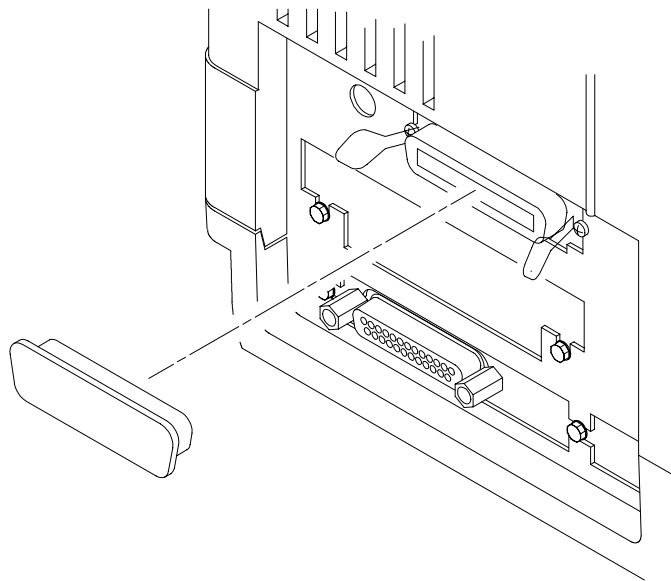
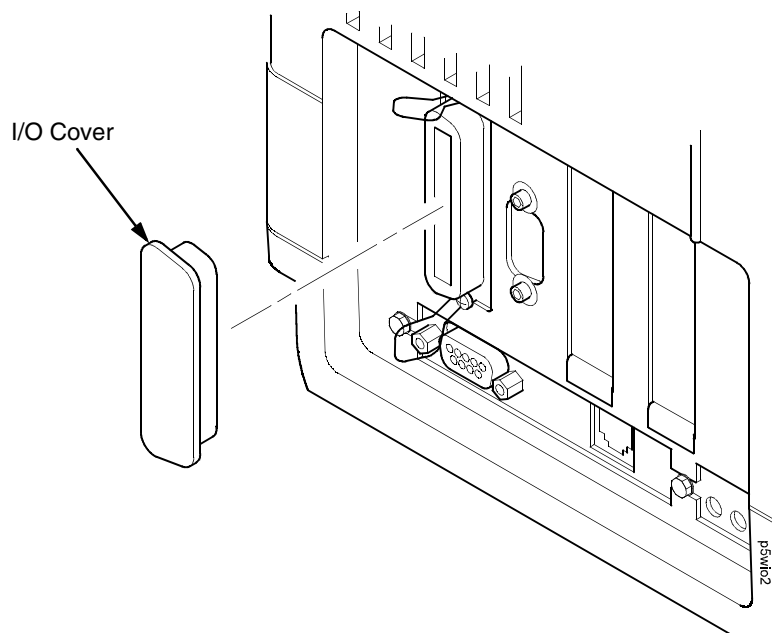

Figure 28. Removing the I/O Cover
Figure 29. Attaching the Cable Connector
3. Referring to Figure 28 and Figure 29, connect the (customer-supplied) interface cable from the host computer to the appropriate printer interface connector: